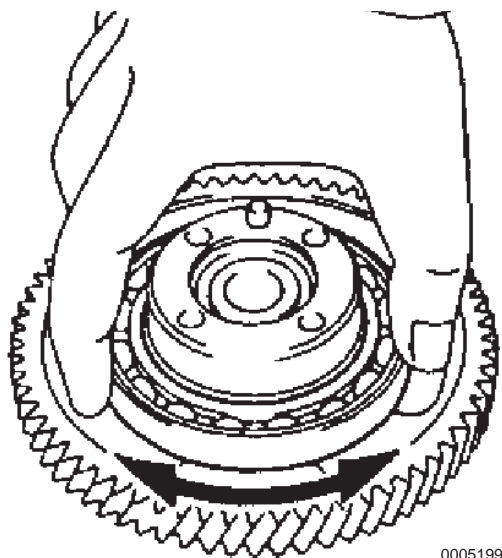

Figure 5-199
4. Check the fuel injection pump drive gear bearing for wear and excessive play (**Figure 5-199**). Replace the fuel injection pump drive gear bearing as necessary.